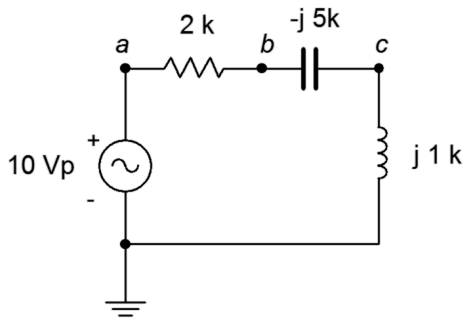

Figure 2.23
41. For the circuit of Figure 2.23, determine v_b , v_c and v_{ac} . E is a 10 volt peak 15 kHz sine.